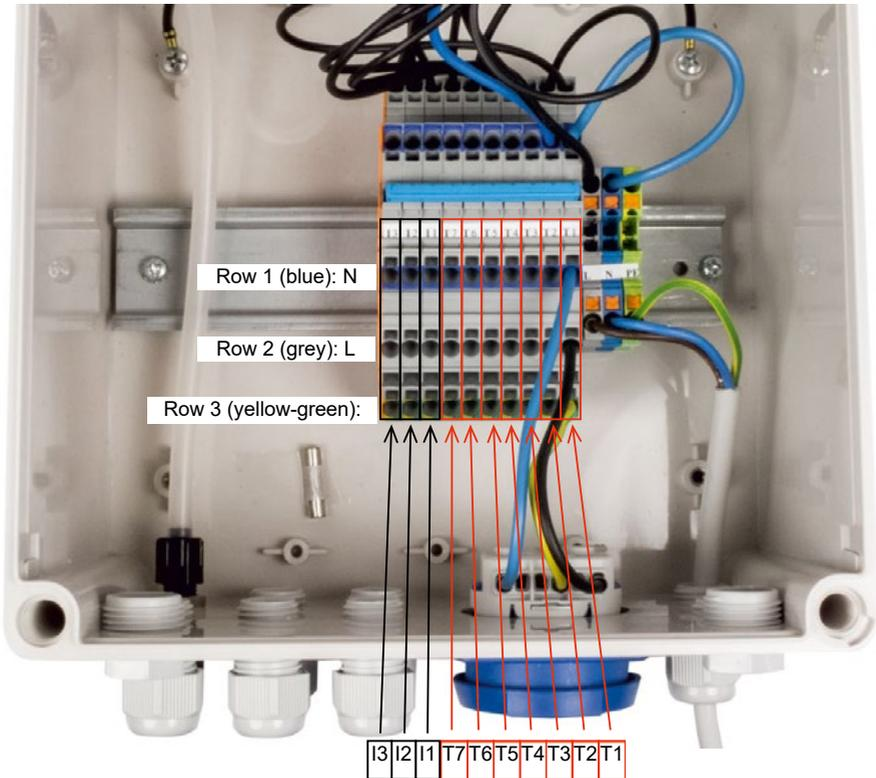

Figure 6: 9.7 controller – terminal strip
The K-Pilot 9.7 controller has multiple electrical outputs and inputs for controlling the required units. The neutral conductor (N) of the unit to be connected is connected to the terminal strip in row 1 (in blue), the phase (L) in row 2 (in grey) and the earth (PE) in row 3 (in yellow-green). In Figure 6, the socket for the compressor – as provided by default – is connected in column (= terminal) T1 as described.